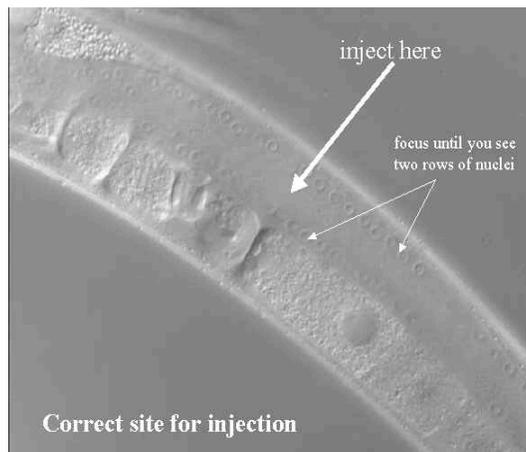

Fig.6– Picture showing where the needle should be placed to inject. (from the Chin-Sang Lab at <http://130.15.90.245/photos.htm>)
5. With the needle well above the slide, bring the worm into focus with the 10X objective. In oil, the gonads are visualized as two clear areas towards the anterior and posterior of the animal (Fig.6). Make sure you are focusing on the gonads and not other parts of the worm.